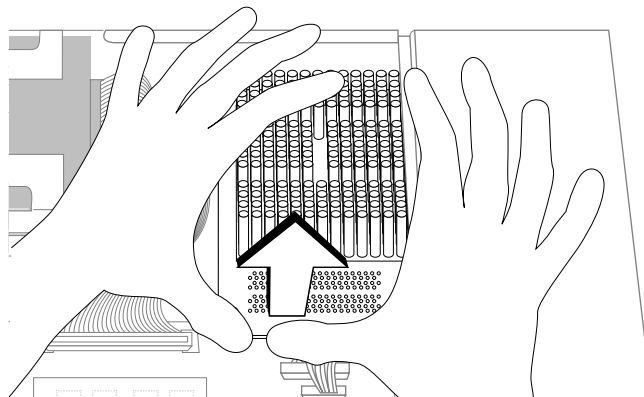

Figure 9-13 Disconnecting the CPU Module
7. Lift the board by bracing your hands against the power supply and the chassis and pushing the board up with your thumbs, as shown in Figure 9-13.